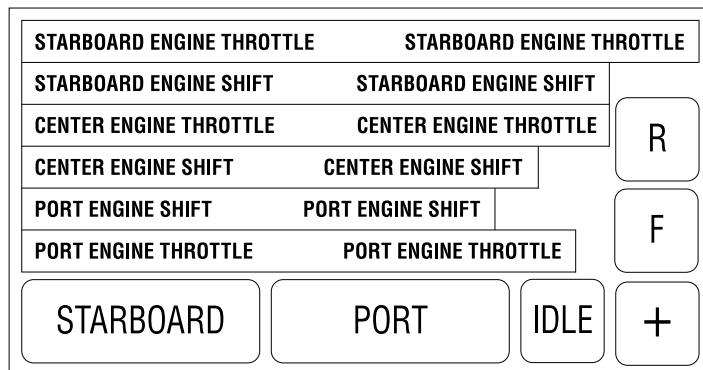
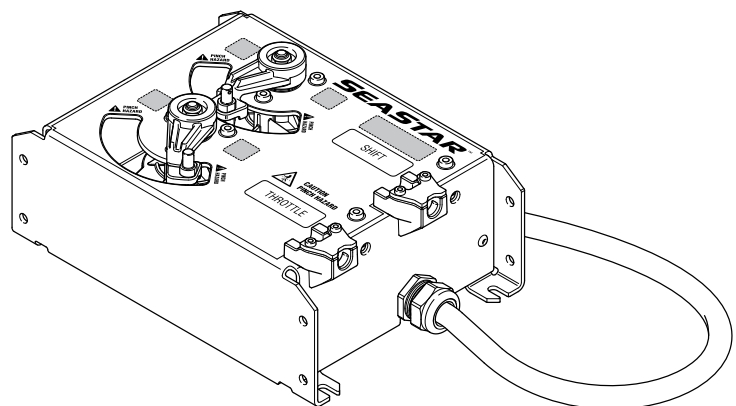

Figure 6-4. Actuator decal sheet.
Figure 6-5. Override decal locations (shaded).
10. Apply the manual override decals (figure 6-4) to the actuator chassis label in the dashed boxes provided (figure 6-5).